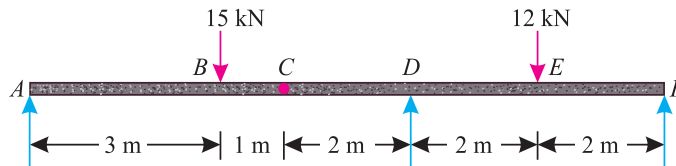

Fig. 16.13.
2. Two beams AD and DF of spans 6m and 4m respectively are hinged at C and supported at A, D and F. The beams are loaded as shown in Fig. 16.13.